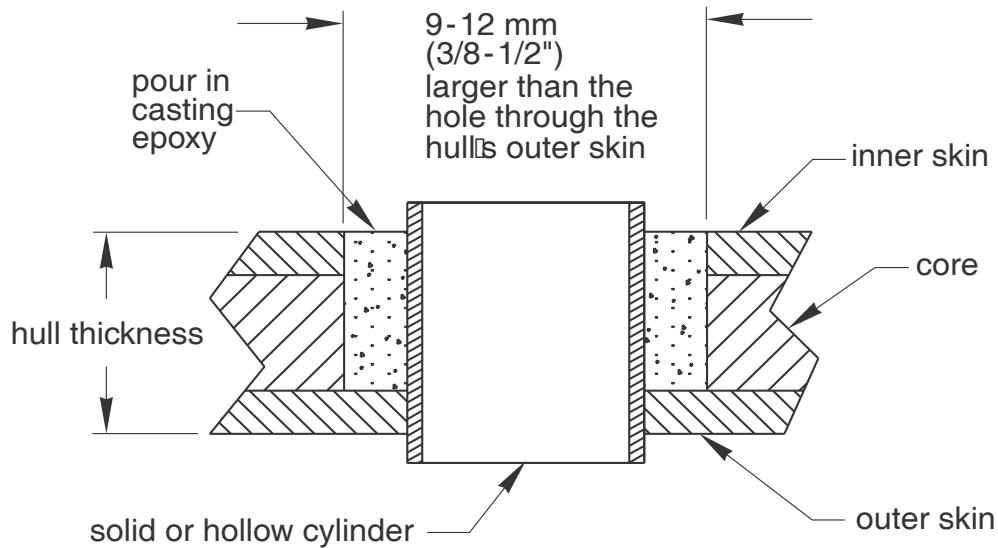

Figure 4 – Preparing a Cored Fiberglass Hull
2. Using a 51 mm or 2” hole saw, cut the hole from outside the hull through the outer skin only (See Figure 4).